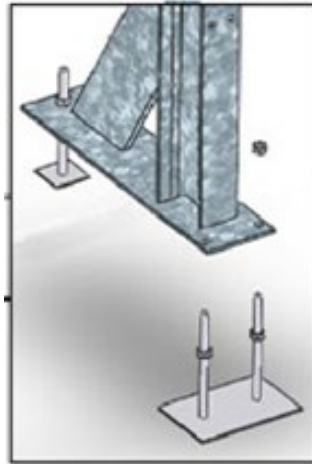

Figure 5 – Installation of the jacks under the supporting braces
These posts are joined together at the bottom with 12 flat bars (B) 1.6 m long bolted together at 2 points. The distance between each post is determined by these flat bars: it should be 1.5 m. They are joined together at the top by 4 flat bars (B) 1.6 m long (identical to the flat bars at the bottom of the structure) and 4 flat bars (C) that are 2.253 m long in the corners (screw in bag A, see *Figure 5*).
At each end of the flat bars there are four holes. At the bottom, the outer holes (*Figure 5*) should be used to fix them in position, while the inner holes should be used at the top of the structure (*Figure 3*).